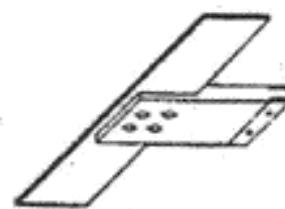

Fig 16 Mitre square
**4. Mitre square.** Mitre squares (Fig. 16) are used to measure an angle of  $45^\circ$ . They are made of all metal with a nickel-plated finish or with a steel blade, and an ebony or rose-wood stock. The blade varies from 200 mm, 250,, and so on to a maximum of 300 mm long.